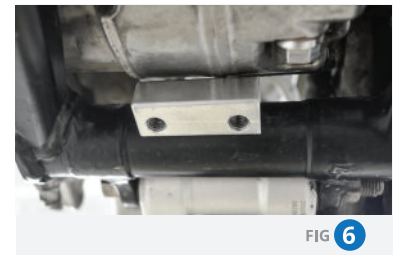
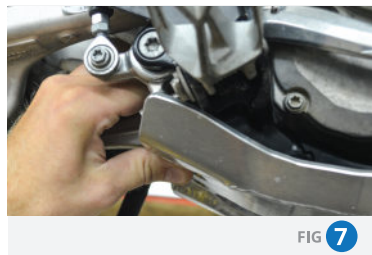

FIG 6
FIG 7
- 3 Locate the 24-016-02 clamp onto the rear cross member of the frame [Fig. 6]. Hold the top of the clamp with your index finger and the rear of the plate with your thumb up to the frame [Fig. 7]. Using the provided M8x20mm flat head bolts, attach the 24-016-02 hook clamp to the skid plate.